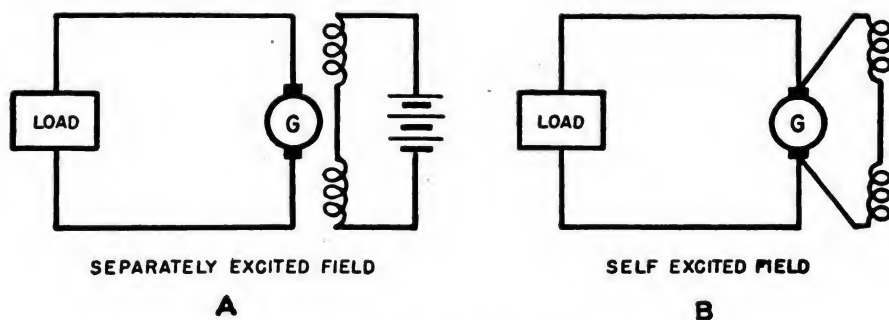

Figure 136.—Field windings.
In (A) of figure 136 you have a single-loop armature with an electromagnetic field whose current is supplied by a battery. You call this field a SEPARATELY EXCITED FIELD. But this type of field is used only for scientific research. The voltage obtained from the generator is d. c. Hence a part of the output current can be diverted to the field
windings to excite the field. The generator is the SELF-EXCITED, as in (*B*) of figure 136.